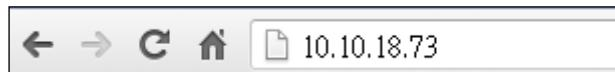

Figure 3-53: IEI iMAN Web Address
Step 2: On the remote management console, open a web browser. Enter the managed system IP address in the web browser (**Figure 3-53**).